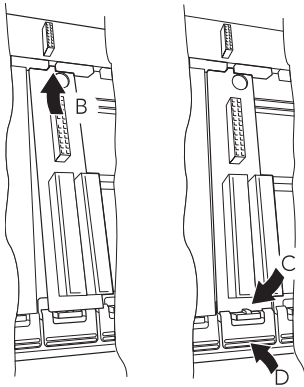

Figure 2.2.2 Terminal unit installation/removal
1. Insert the tag at the top of the terminal unit printed circuit board into the relevant slot in Base Unit (action 'B' in figure 2.2.2).